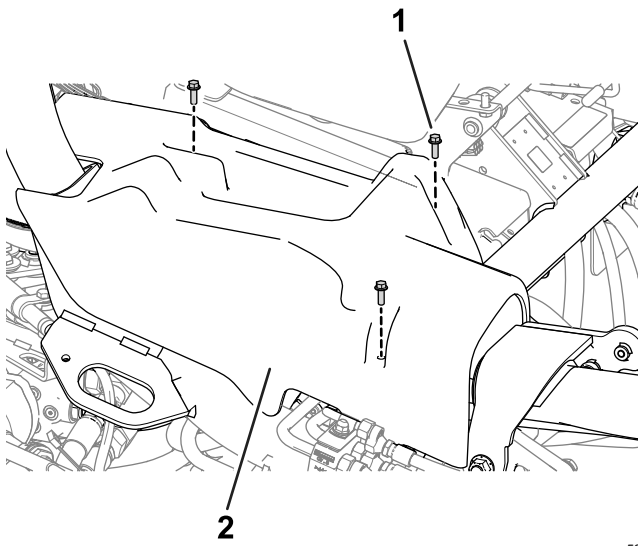

Figure 9
4. Remove the right side cover (Figure 9) from the machine.
8. Install the right side cover to the machine (Figure 9).